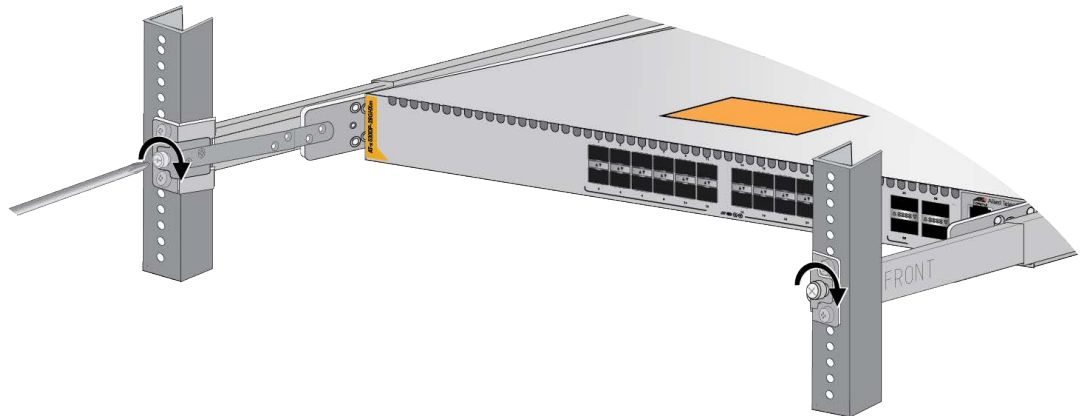

Figure 28. Tightening the Two Screws on the Fixed Brackets
4. Tighten the two screws on the fixed brackets to secure the switch to the equipment rack. Refer to Figure 28.